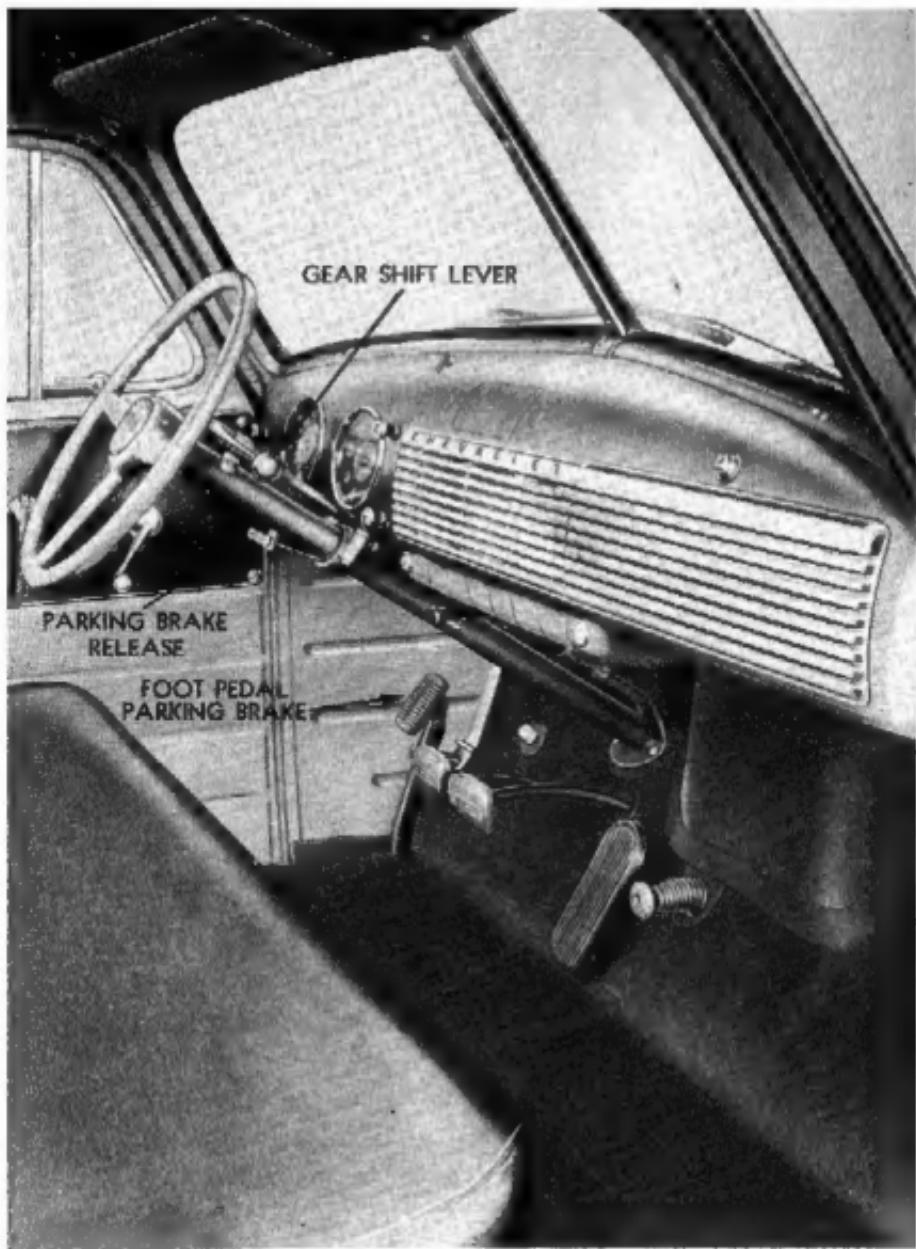

Fig. 1—Controls and Instruments— $\frac{1}{2}$  and  $\frac{3}{4}$  Ton
The type, location and operation of instruments and controls vary on different models and makes of vehicles; therefore, regardless of the experience an owner or driver may have had it is advisable to familiarize one's self with the instruments and controls, and their use before driving this new truck. The locations of the various instruments and controls are shown in figures 1 and 2.
**Gearshift Lever (3-speed Synchro-mesh Transmission).** Gearshift control on all ½ and ¾ ton trucks with 3-speed transmission is located on the steering column (fig. 1). This mounting at the upper end of the steering column and the gearshift lever are similar to those used on the passenger car. The shift pattern is the same as heretofore except that it is now in a vertical plane instead of a horizontal plane as with the floor mounted gearshift lever.
**Cowl Ventilator Control Knob.** This knob located below the instrument panel in line with the ignition switch (figs. 1 and 2) is used to open and close the cowl ventilator. When the knob is up toward the instrument panel the ventilator is closed and locked. By pushing the lever down and forward, the desired amount of air circulation can be obtained.